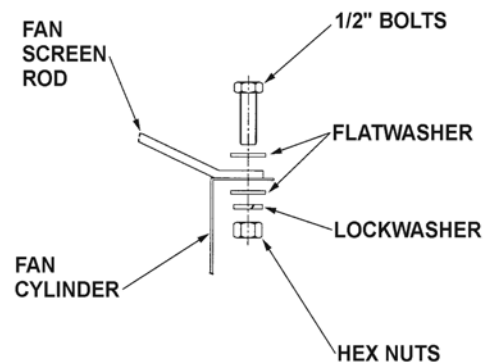

Figure 21 – Attaching Fan Screen to Cylinder
4. At each hole, attach the fan screen to the discharge cylinder as shown in Figure 21.